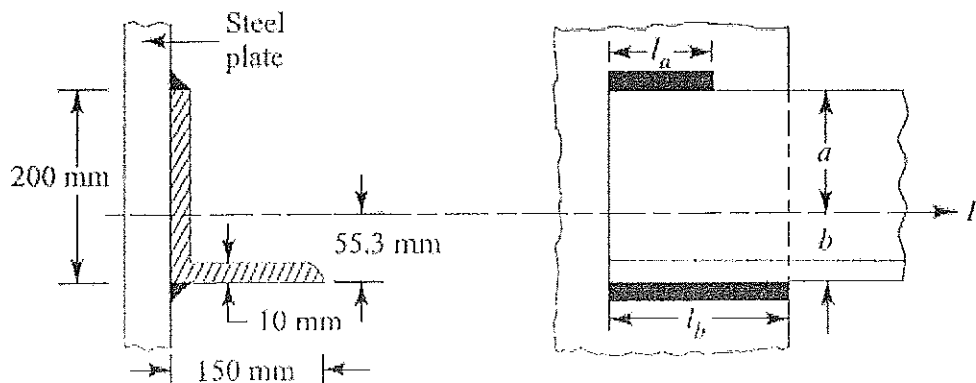

Fig.Q3
- a. State three (03) advantages and three (03) disadvantages of Welded joints over Riveted joints. [4.5 marks]
- b. Fig.Q3 shows the front and end elevation of a welded joint, where an angle is welded to a flange. The dimensions of the angle are 200 x 150 x 10 mm and it is subjected to an axial load of 200 kN. The allowable shear stress for the welding material is 75 N/mm². Determine the two weld lengths l_a and l_b , if the two weld lengths are such that the sum of the resisting moments of the weld about the gravity axis is zero. [12.5 marks]